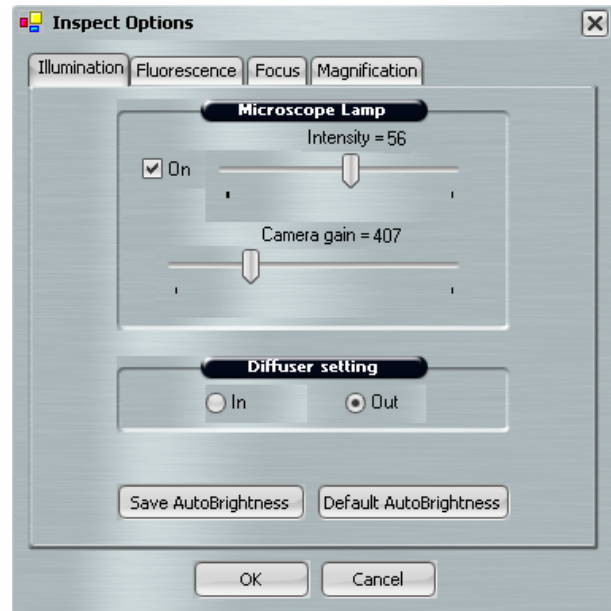

Figure 26 The illumination tab.
Note: The brightness value corresponds to the shutter speed/exposure time of the camera. If the value in the brightness control is >0.5 seconds, the time needed for the main image window to refresh after you move the stage may be slow. If this is the case, adjust the Intensity and Camera Gain in the Illumination tab in the Inspect Options dialog box (see Figure 26) so that you can set the brightness value lower.
3. Click the **Illumination** tab (see Figure 26).